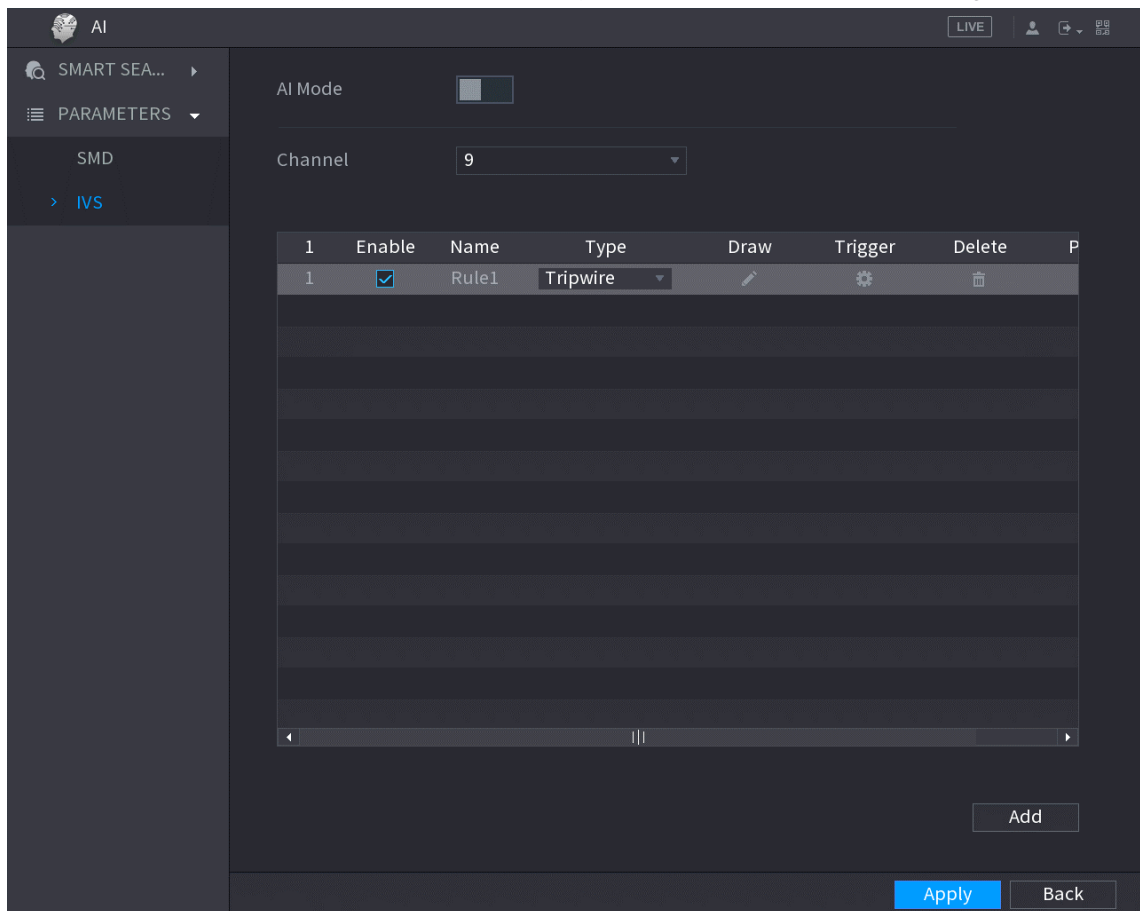

Figure 5-179
**Step 1** On the rule line that you added, in the **Type** list, select **Tripwire**. See Figure 5-179.